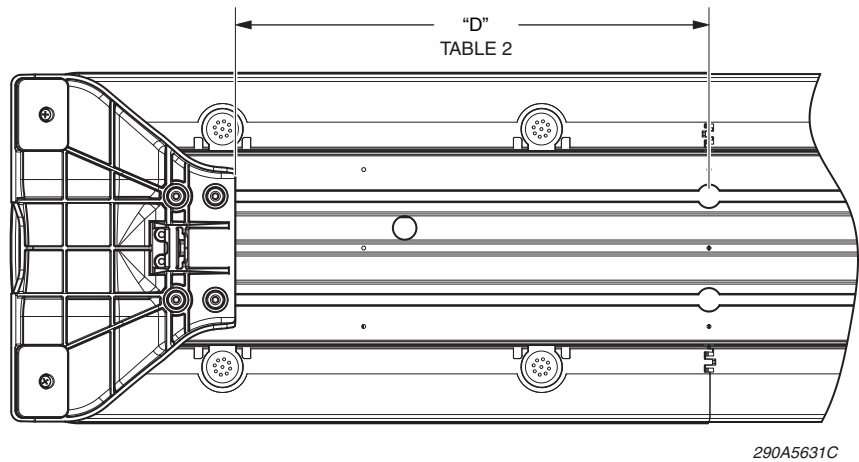

Figure 3: Baseline position "D" for the mounting foot on the vehicle
3. Position the bolts to match the holes in the mounting foot. Baseline positions for the mounting foot on some common vehicles are shown in Table 2 below and Figure 3 on page 3.